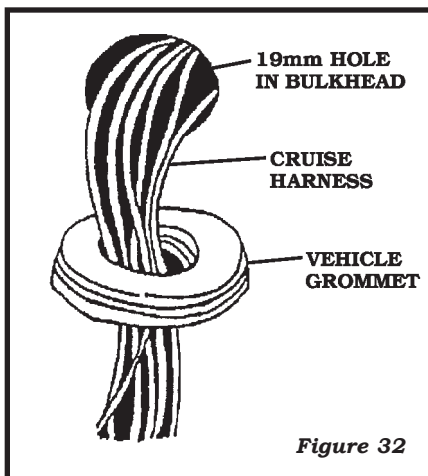

Figure 32
- C. **CRUISE HARNESS** needs a **19mm (.75")** hole to pass through bulkhead. You may find one nearby, such as the speedometer cable hole or a small one you can file larger. If you find the right size hole in the right place, remove vehicle grommet. If not, drill, saw, or punch a **19mm** hole in bulkhead. A hole a few millimeters to the left or slightly higher than the steering column is usually a good place. *Figure 32*
Seal hole in bulkhead with **SEALING PUTTY** as shown in *Figure 32*.